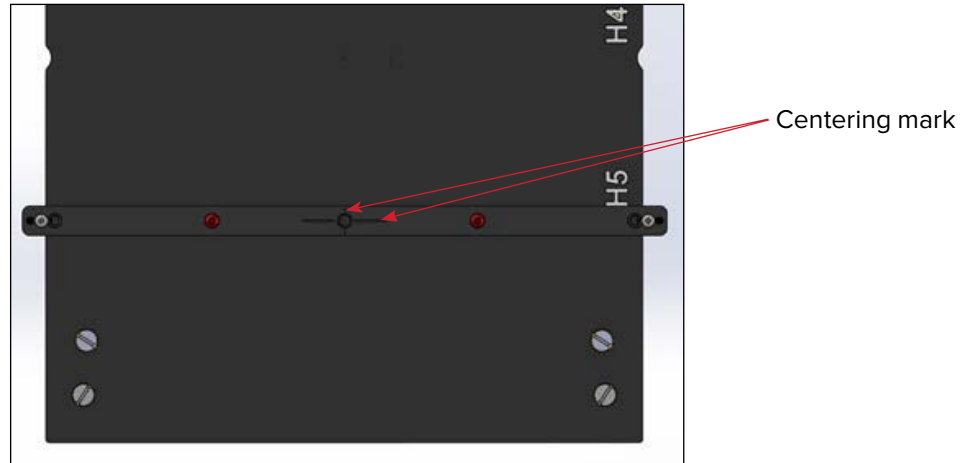

Fig. 32
3. Using the CT Laser alignment system, determine where the alignment beam hits the Centering mark on the Locating Bar (Fig. 32).